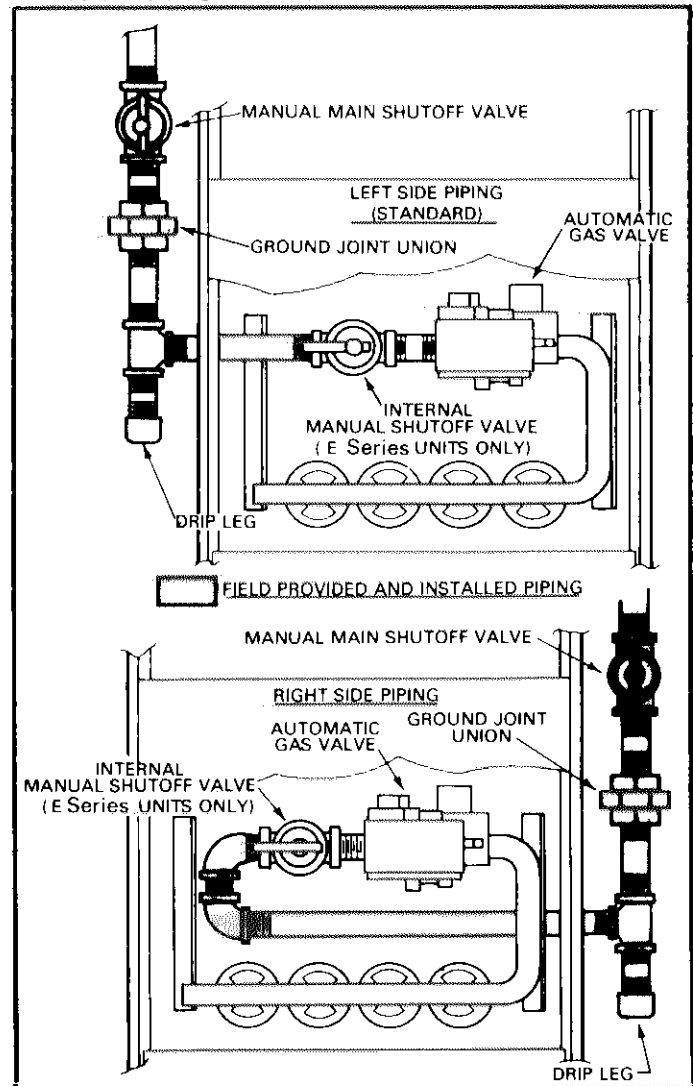

FIGURE 5
- 1 - This unit is shipped standard for piping to be installed through left side of unit. See Figure 5. All installer must do is connect gas supply to piping assembly.
- 2 - If piping must be brought through right side of unit, a piping hole is furnished. See Figure 5 for connection.
A drip leg should be installed in the vertical pipe line to the unit. See Figure 5.